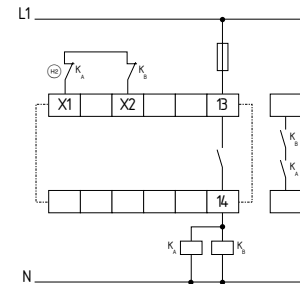

Fig. 17
**Dual-channel control with feedback circuit (Fig. 17)**